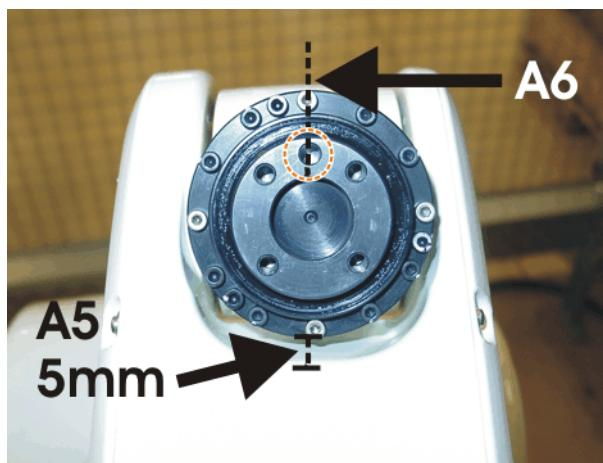

Fig. 11-23: Pre-mastering position A5 and A6
1. Move A5 so that the tool flange is approx. 5 mm from the **top side** of the robot wrist (>>> Fig. 11-23).
2. Move A6 so that the screws are lined up as shown in the figure (>>> Fig. 11-23).